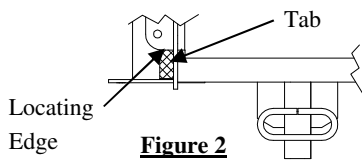
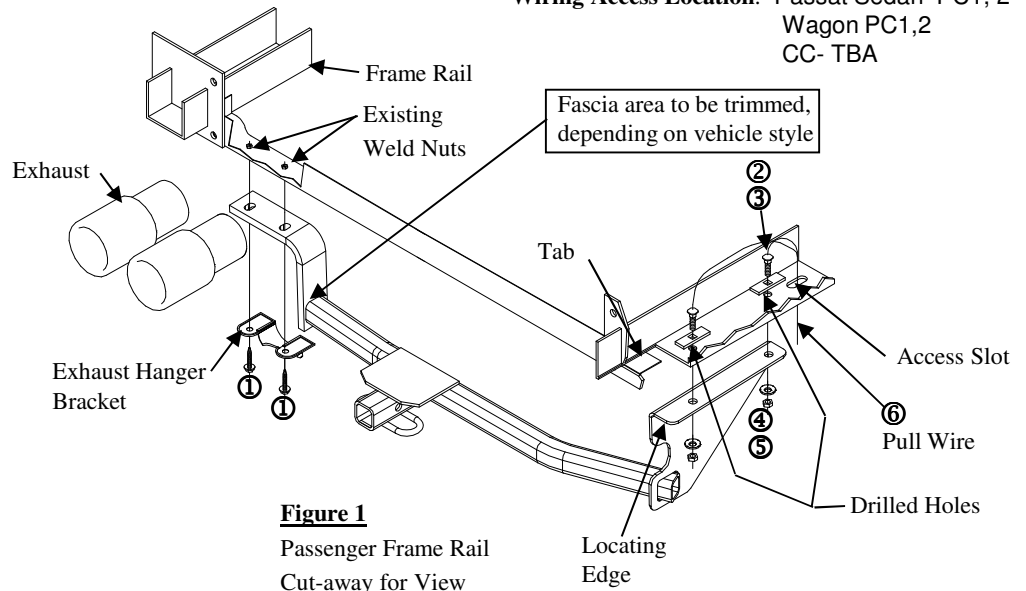

Figure 2
Figure 1
①	Qty. (2)	Bolt M8 X 1.25 X 55 CL 9.8	④	Qty. (2)	Conical Washer 7/16"
②	Qty. (2)	Bolt, Carriage 7/16-14 X 1.50 GR 5	⑤	Qty. (2)	Nut 7/16-14
③	Qty. (2)	Block 1/4 X 1 X 3	⑥	Qty. (1)	Pull wire
- Remove plastic fascia covering the passenger side frame rail of the vehicle by removing the (5) Torx screws. Return plastic fascia covering and screws to vehicle owner. Remove the two plastic fascia nuts from the fascia tabs (Do not discard).
- Remove the (2) bolts from the exhaust hanger bracket as shown in Figure 1 to lower the exhaust. Return bolts to owner.
- Slide the driver's side bracket above the exhaust bracket. Note: Sandwiching the hitch bracket between frame and exhaust hanger bracket. Using the (2) M8 bolts loosely tighten the fasteners. Note: Rotate the hitch for ease of installation.
- Align the passenger bracket with the locating edge and the tab see Figure 2 (check hitch for alignment perpendicular of the vehicle making sure the bracket is flat against the frame rail). The passenger side bracket may need to be pushed flat against the frame rail. Then using the hitch as a template mark the hole locations. Drill the 1/2" holes.